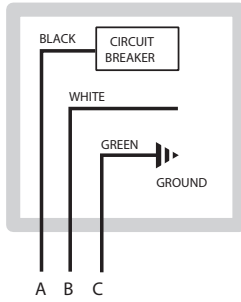

Figure 21. Wiring Connections
**⚠ WARNING:** Using a multi-meter, check the following voltages at the circuit breaker panel prior to connecting any equipment. Make sure proper polarity is followed and house ground is proven. (See Figure 21)
Refer to **Figure 20** and **Figure 21**.